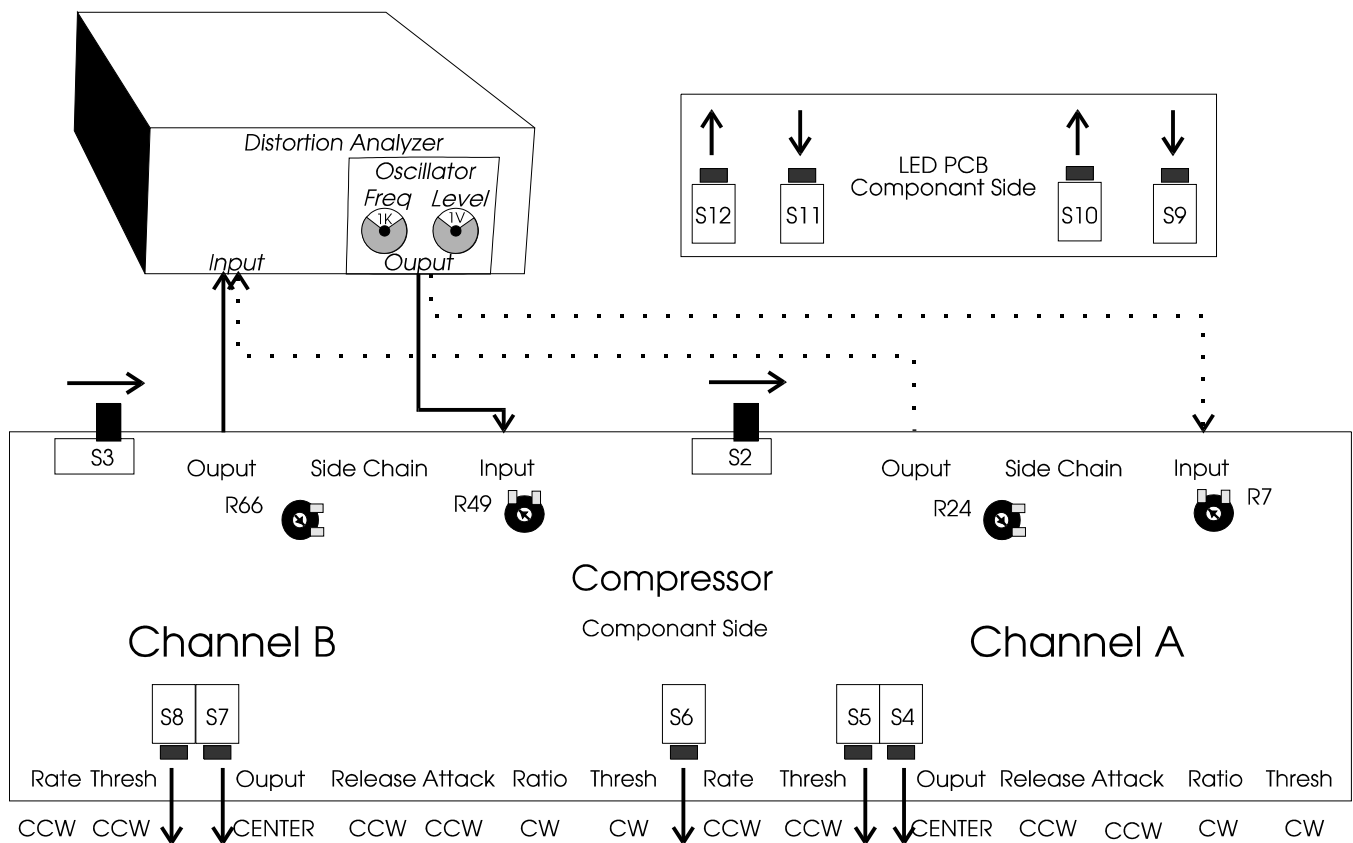

Figure 2-QC Test Setup
- ✓ Connect equipment to channel A and establish settings as shown in Figure 2.